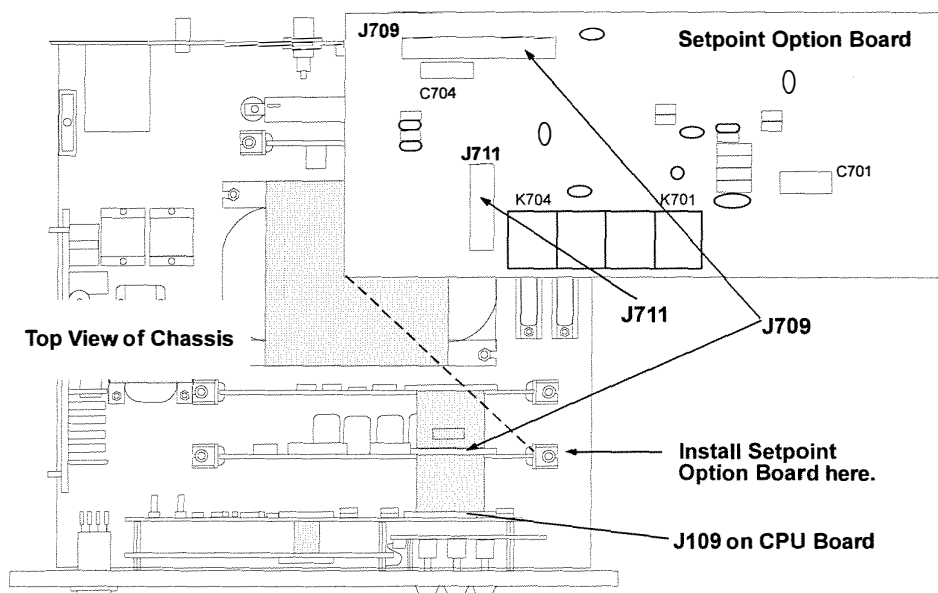

Figure 2-5. Installing the Setpoint Option Board
3. Plug the other end of the ribbon cable into J711 on the setpoint board (Figure 2-5), matching the arrows and positioning the cable with the colored stripe on top.
7. **Installing the Setpoint Option only.** Plug the 2-position, short ribbon cable into J109 on the CPU board and J709 on the setpoint board (Figure 2-5) with the colored stripe (pin 1) closest to the left side of the chassis when the rear panel is facing you.
**Installing the Setpoint Option with the Computer Option.** The longer 3-position ribbon cable connects J109 on the CPU board, J709 on setpoint board, and J809 on the computer interface board (Figure 2-5). Pin 1 should be closest to the left side of the chassis when the rear panel is facing you.